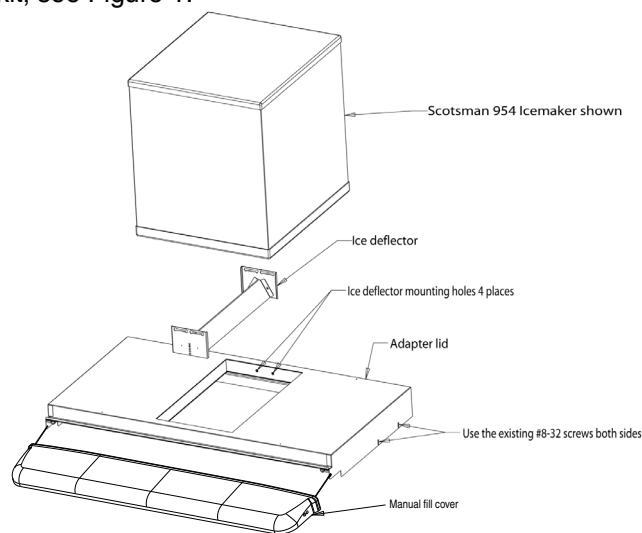

Figure 1.
3. Unpack the adapter kit, see Figure 1.
4. Fasten lid to the dispenser with (4) #8-32 machine screws, (two on each side).
5. Install ice deflector in adapter opening using four #8-32 screws, see Figure 1. **DO NOT** completely tighten screws at this time.